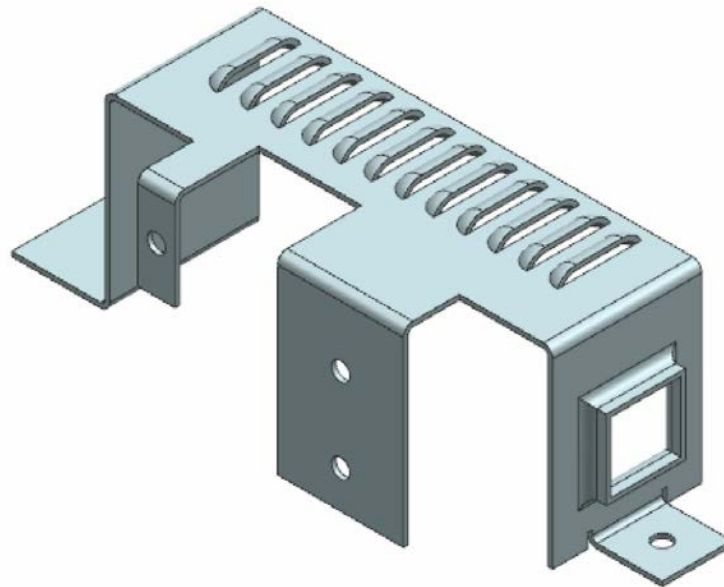
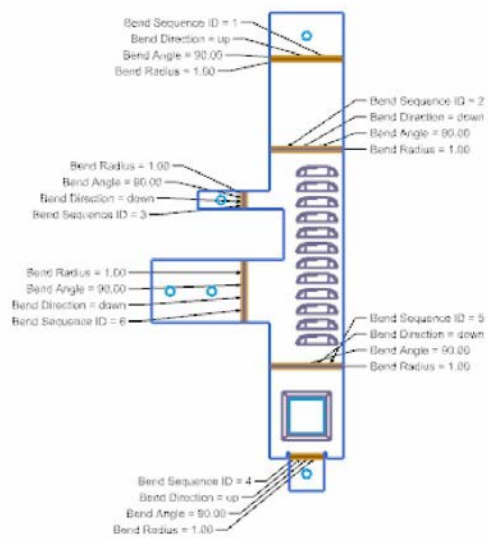
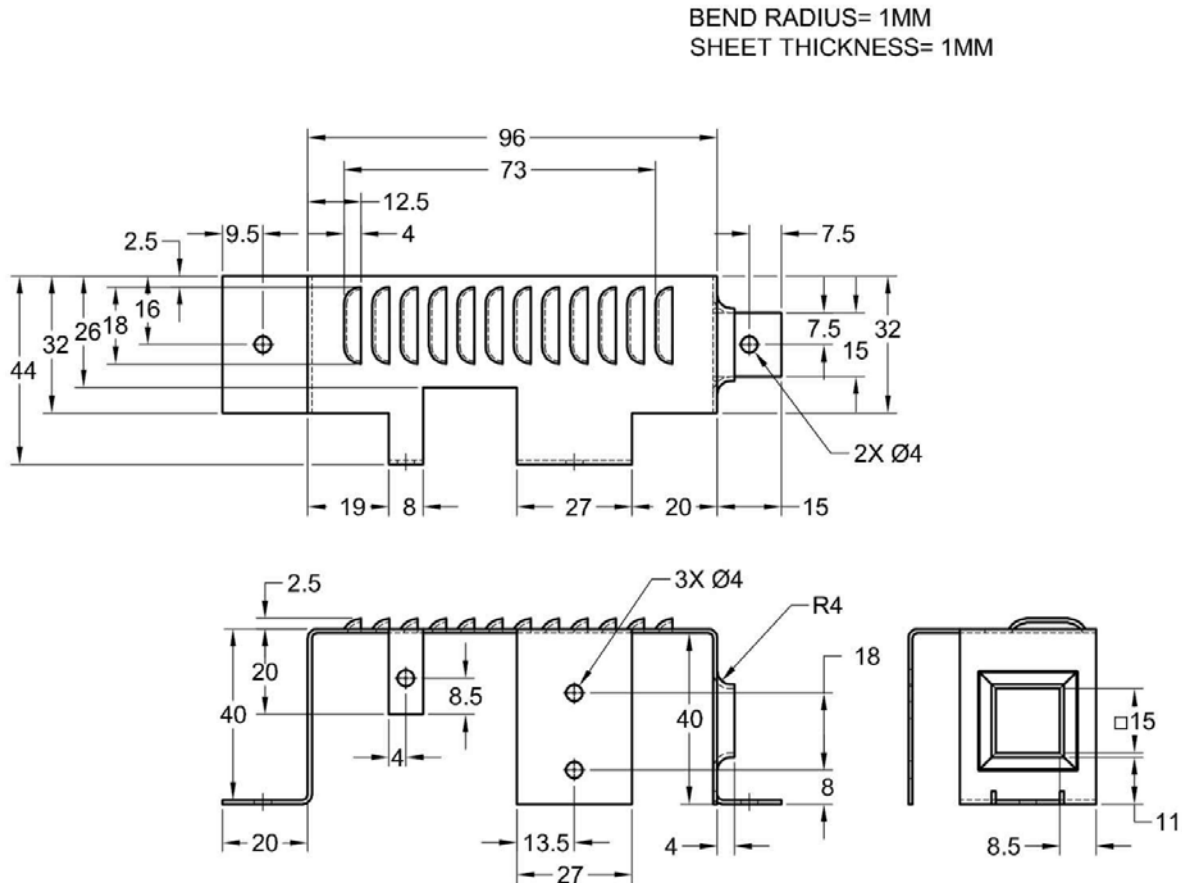
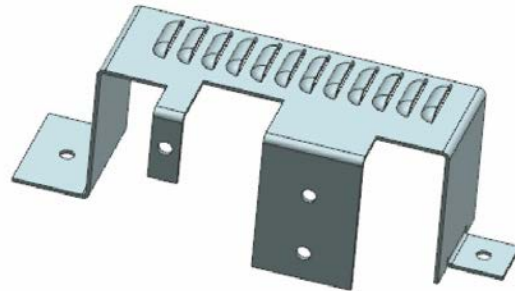

Figure 14-100 Sheet metal part for Tutorial 1
Figure 14-101 Flat pattern of the sheet metal part for Tutorial 1
Figure 14-102 Dimensions of the sheet metal part
Figure 14-120 Sheet metal part after creating the remaining holes
In this tutorial, you will create the sheet metal part of the Holder Clip shown in Figure 14-100. The flat pattern of the component is shown in Figure 14-101 and its dimensions are given in Figure 14-102. The material thickness, bend radius, relief depth, and relief width is 1 mm each. The specifications of the louver are given next.
3. Select the front face of the first flange; the Sketch in Task environment is invoked and point is placed on the selected face. Place another point and specify the position of both the points by adding dimensions. For positional dimensions, refer to Figure 14-102.
7. Similarly, create the remaining holes on other faces of the sheet metal, refer to Figure 14-120. For dimensions of the holes, refer to Figure 14-102. The part after creating the holes is shown in Figure 14-120.